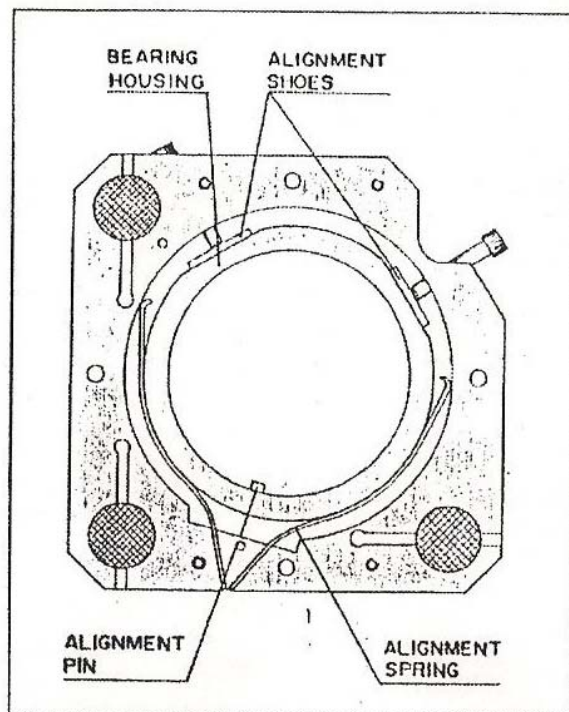

FIGURE 4. CO₂ LASER TUBE FRONT SUPPORTING PLATE
6. Slide the CO₂ laser tube towards the rear section of the bench, while simultaneously pulling the high voltage lead and upper coolant tube. The rear bearing housing should come out with the tube, but the front bearing housing should remain in place (see Figure 4).
3. Apply a thin layer of petroleum jelly on the alignment spring of the CO₂ laser supporting plate and on the bearing housing (see Figure 4) of the front CO₂ laser supporting plate.